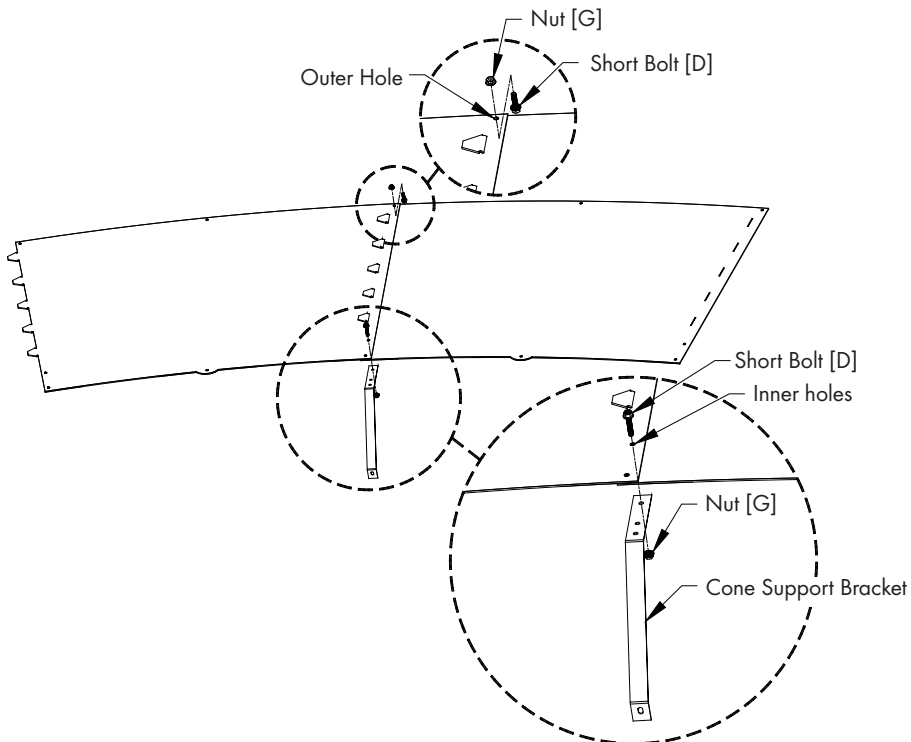

Figure 10A
Fasten each of the joints in the single outer hole using (1) Short Bolt [D] and Nut [G], with the nut on the side with the tabs. At the inner pair of holes of each joint attach (1) Cone Support Bracket to the inner hole using (1) Short Bolt [D] and Nut [G] with the bolt head on the side with the tabs. See Figure 10A.